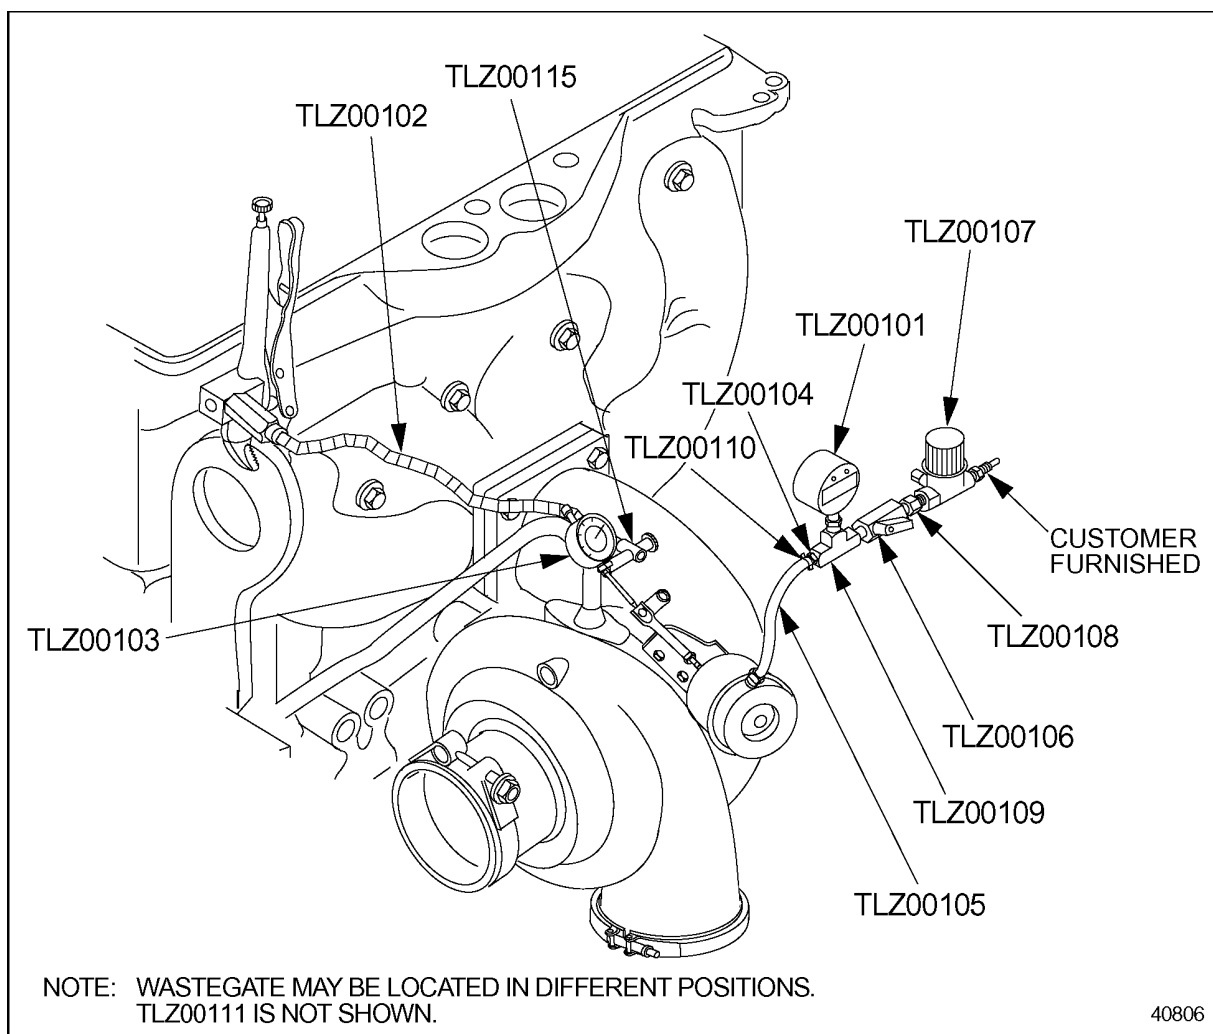

Figure 6-22 **Checking Wastegate Calibration**
3. Connect regulator and pressure gage setup to wastegate actuator. See Figure 6-22.
1. Remove actuator hose from top side of actuator can. See Figure 6-22. With the pressure gage setup, apply enough pressure to the actuator can until the rod begins to move. Refer to section 6.5.5.1.